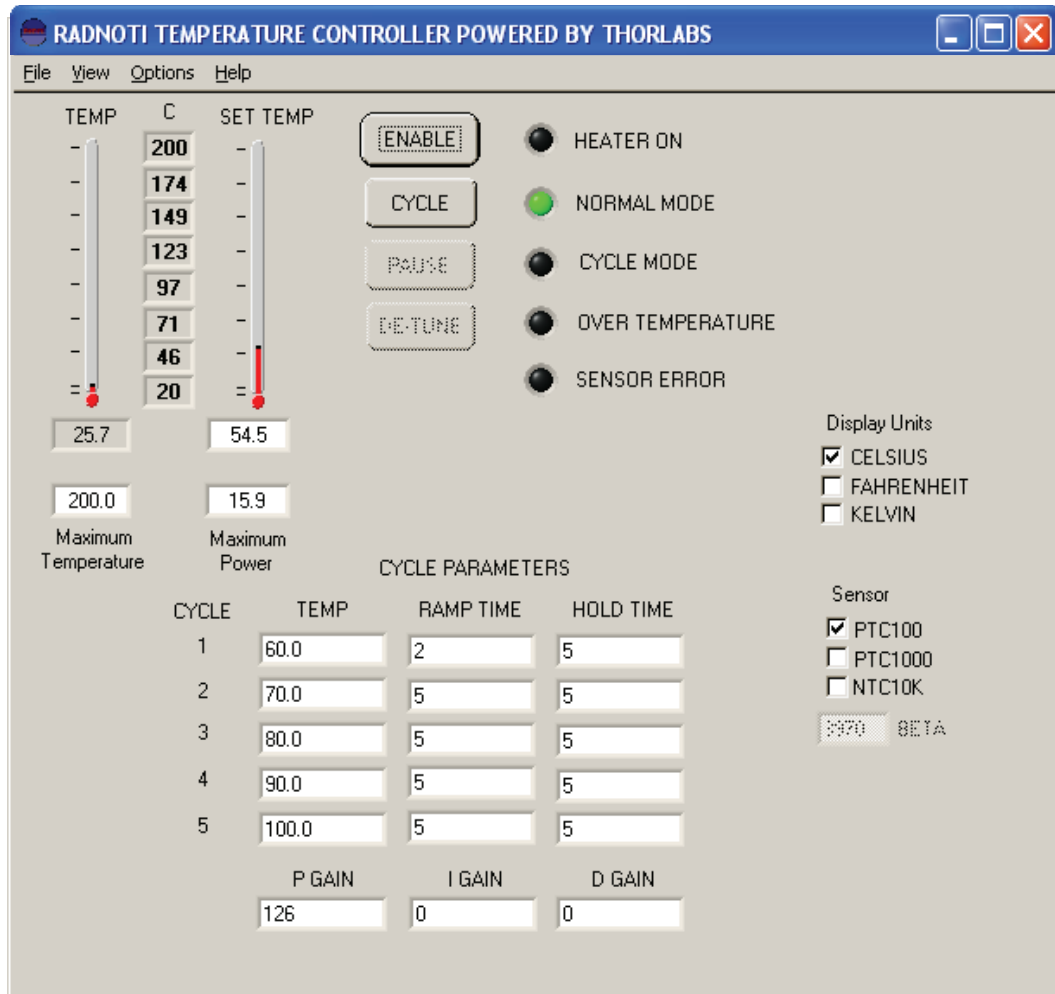

Figure 3 - Active Connection between Computer and Unit
- Refer to Figure 3. Locate the two Fuse Holders near the AC Input Module towards the back of the unit. Remove the cover to each fuse holder. The fuse is installed in the cover. Remove the existing fuse and install the appropriate replacement fuse.